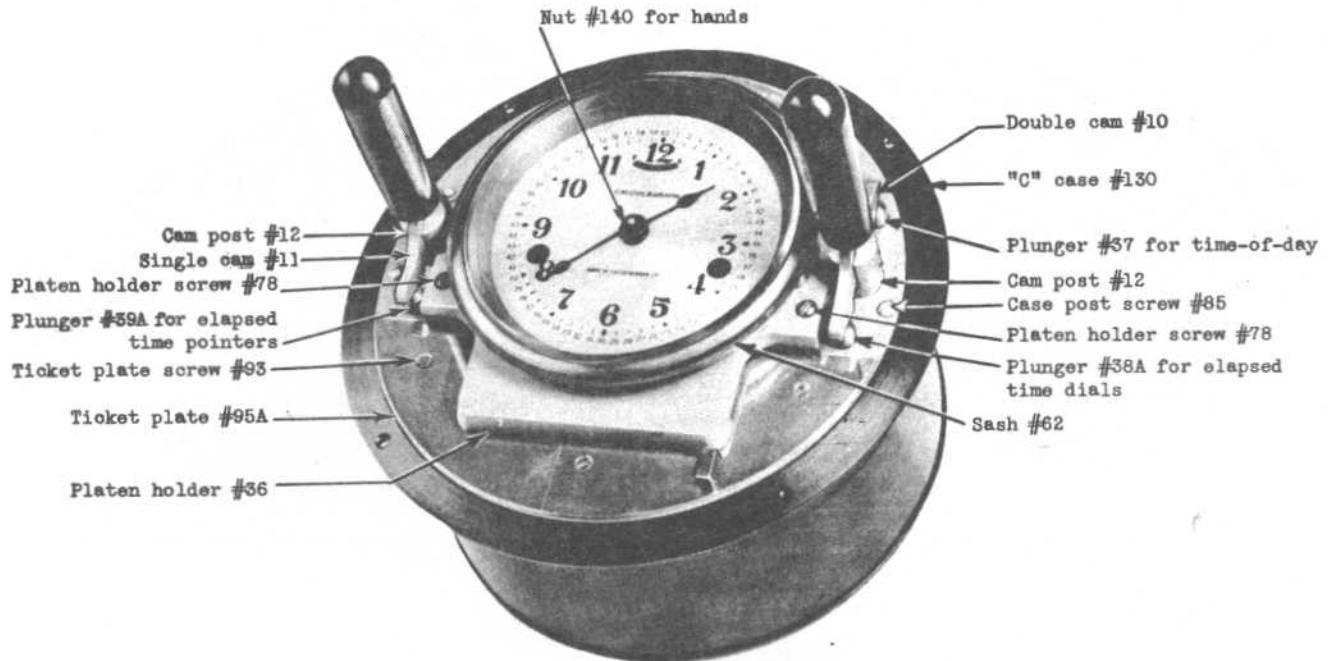
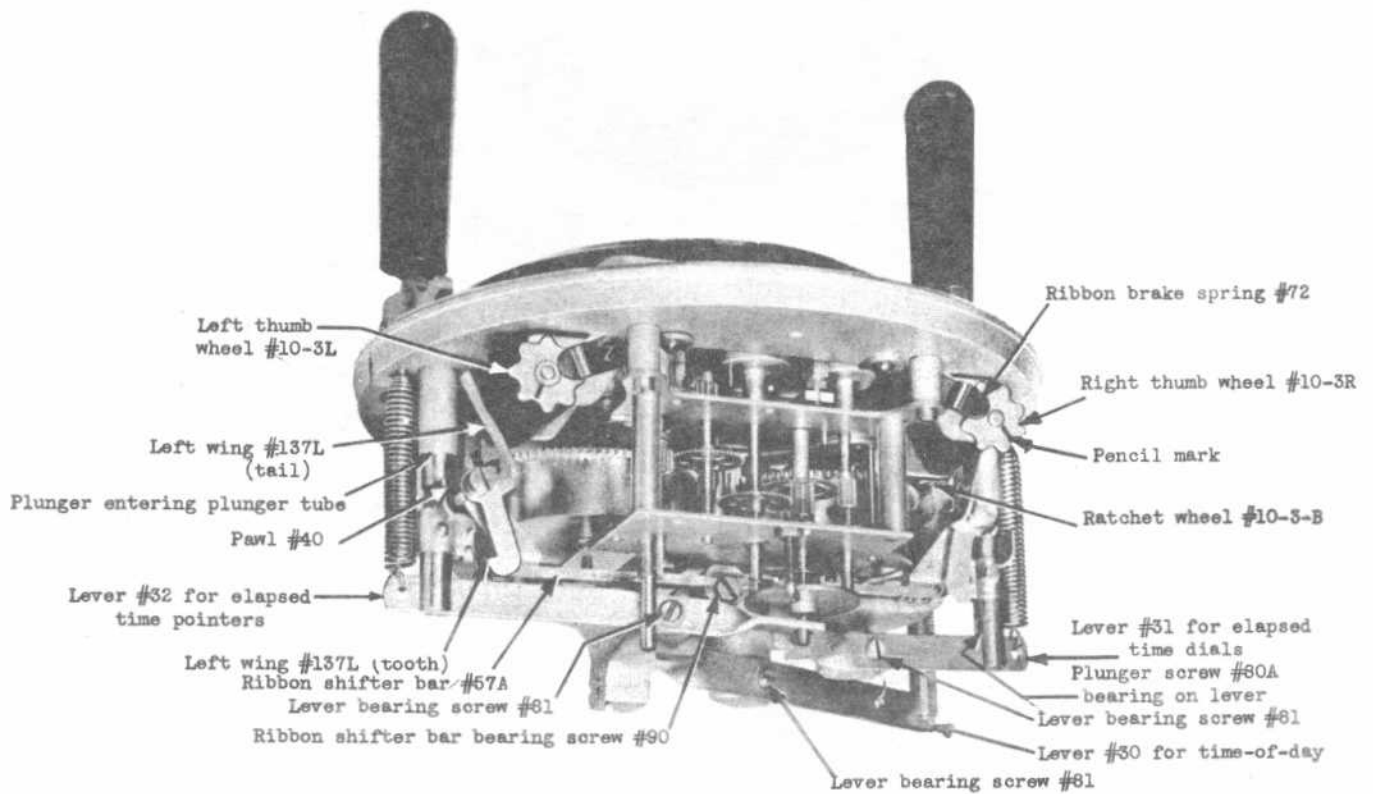

Figure 1 - MODEL 6 CALCULAGRAPH IN A "C" CASE
Figure 4 - MODEL 6 CALCULAGRAPH
Twice a year, or as local conditions warrant, lubricate the following shown in figure 4; (1) the three lever bearings; (2) the bottom end of the plungers where they push against the levers; (3) the plungers where they enter the plunger tubes; (4) the center bearing of the ribbon shifter bar; (5) and put one drop between the two ribbon brake springs and their thumb wheels; also figure 1; (6) the top of the three plungers where they bear against the cams; (7) both sides of the two cams where they fit into the slot of the cam posts.
If the reverse mechanism on one side does not shift when the handle on that same side is operated fully, and the ribbon is unwound entirely from the spool on that side, bend the tail of that wing, figure 4, out away from the ribbon. To do this rotate the wing away from the ribbon and hold it thus, then bend the tail at its lower end near the screw and not up near the top end. A very slight bend will advance the shift considerably, so if it is bent too much another try may be necessary.
After adjusting the tail of the wing, wind about a dozen turns of ribbon onto the empty spool and pull the other handle once, then pull the handle you are working on once and continue pulling the two handles alternately until the tooth of the wing, figure 4, is caught and moves the shifter bar down till it snaps into its lower position. If the shift occurs too soon, that is, with ten or more turns of ribbon on the
If the ribbon shifter bar, see part #57A figure 4, is down on the left end the ribbon will feed toward the left hand and it will feed only when the left hand handle is operated. If the bar is down on the right end the ribbon will feed toward the right and it will feed only when the right handle is operated.
If the pawl, see part 40 figure 4, on the feeding side does not move down far enough to engage another tooth on ratchet wheel, see part #60 figure 4, of the ribbon spool when the handle is pulled, it may be necessary to turn the plunger screw one half turn up into the plunger. See instructions Section 5.03 and 5.04.
Now locate the front right lever #31, figure 4 of the three long levers which are operated by the handles. Remove the pivot screw which the lever swings on after first unscrewing its lock screw one turn. Next remove this lever from the slot in the plunger and turn the plunger screw out one half turn, put the lever back in place again and tighten the lock screw. Repeat again if necessary, but do not overdo it. If after making the foregoing adjustment the cam #10 or #11 figure 1 does not either touch the main plate or come to within about 1/32" of it when the handle is pulled forward to the end of its printing stroke, you may find that the pawl which feeds the ribbon ratchet wheel does not go down far enough to catch a tooth and thus the ribbon will not move. You have turned the adjusting screw out too far.